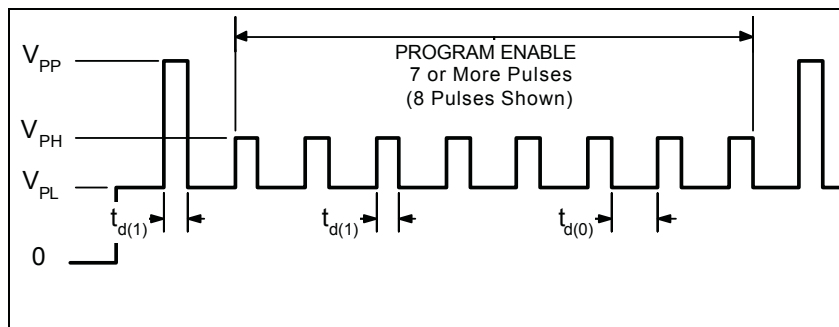

Figure 4. Program Enable Pulse Sequence
**Program Enable** To program the device, a keying sequence is used to activate /enable the programming mode as shown in figure 4. This program key sequence consisting of a VPP pulse, at least seven VPH pulses, and a VPP pulse with no supply interruptions. The sequence is designed to prevent the device from being programmed accidentally (e.g., as a result of noise on the supply line).